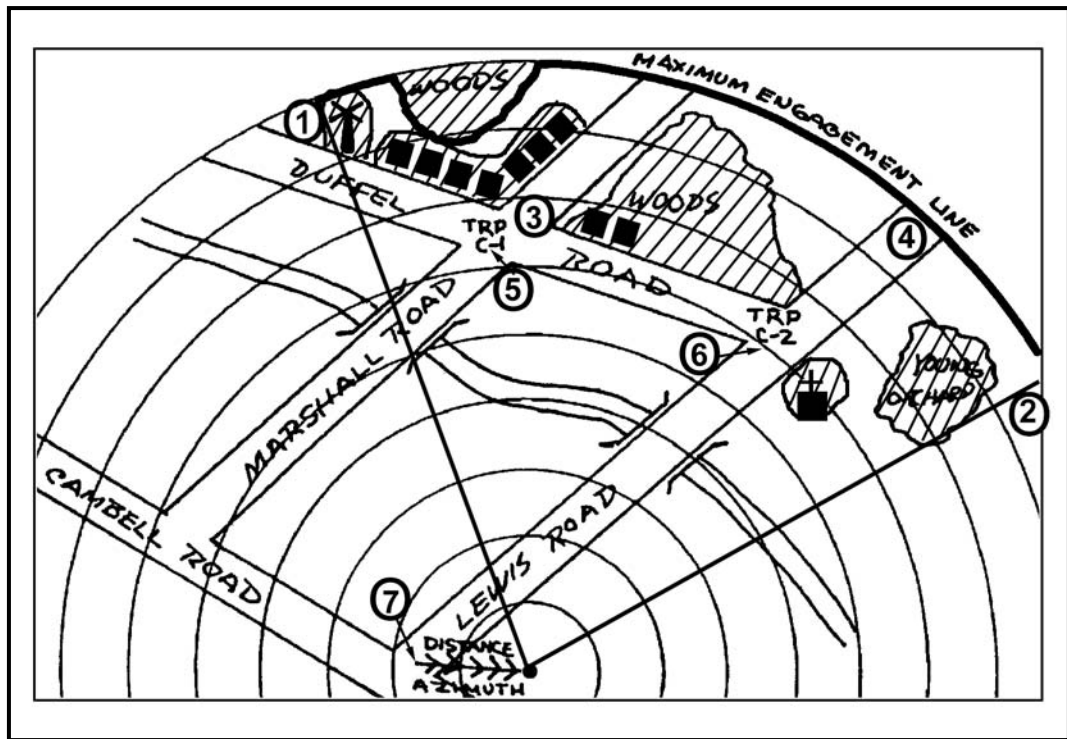

Figure D-8. Placement of distance and azimuth from a known point.
g. Use a compass to determine the azimuth from the firing position to the known point. Convert the direction to a back azimuth. Draw a line with multiple arrows from the known point to the firing position. Place a number at the known point and circle the number (Figure D-8, page D-7).